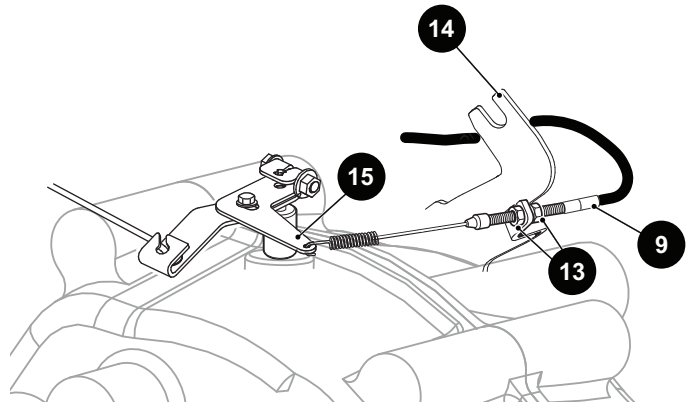
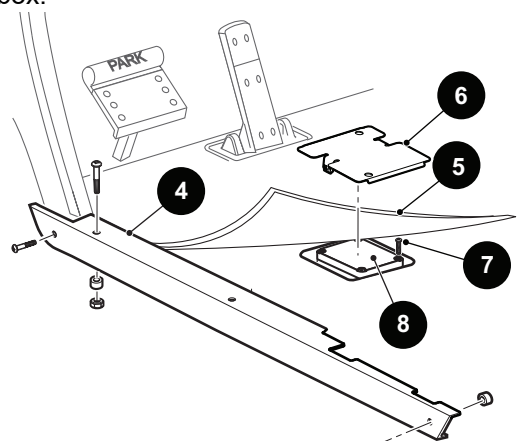
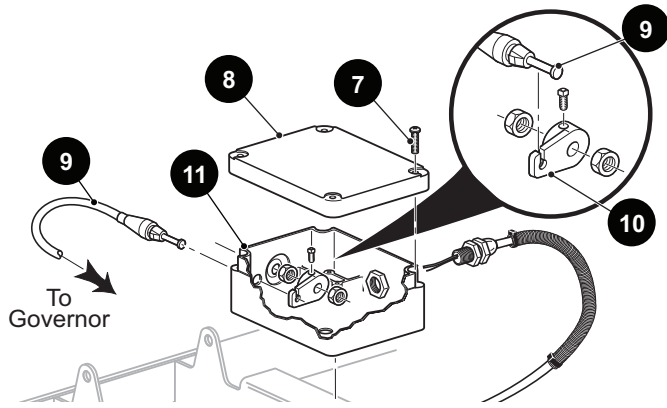

Fig. 2 Accelerator Cable at Governor
Fig. 3 Pedal Box Access
Fig. 4 Accelerator Cable at Pedal Box
To install the accelerator cable, proceed in reverse order of removal (Ref. Fig. 2) (Ref. Fig. 3) (Ref. Fig. 4).
To adjust the accelerator cable, position the cable in the accelerator cable bracket at the rear axle so that the throttle is fully closed while allowing 1" travel at the top of the accelerator pedal. Once you correctly position the cable, tighten the cable securing nuts (13) on the bracket (Ref. Fig. 2).